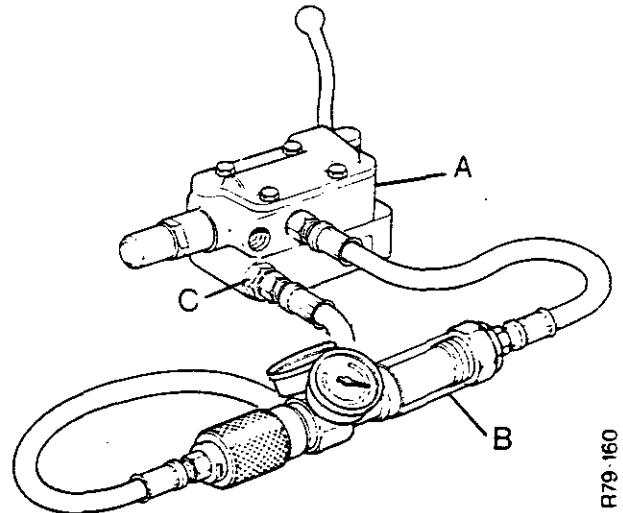

FIGURE 52. TESTING THE THROW-OUT MECHANISM
1. Remove any dirt from and around the live take-off valve. Connect the inlet pipe for the flowmeter to the rear port on the live take-off valve (see Figure 52.) Connect the outlet pipe from the flowmeter to the distribution block. If a flowmeter is not available, use a pressure gauge and screw type valve.